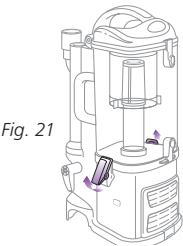

Fig. 21
- 1 Undo the latches on the sides of the dust cup by lifting them up and outwards to remove the dust cup from the motor base. **(Fig. 21)**